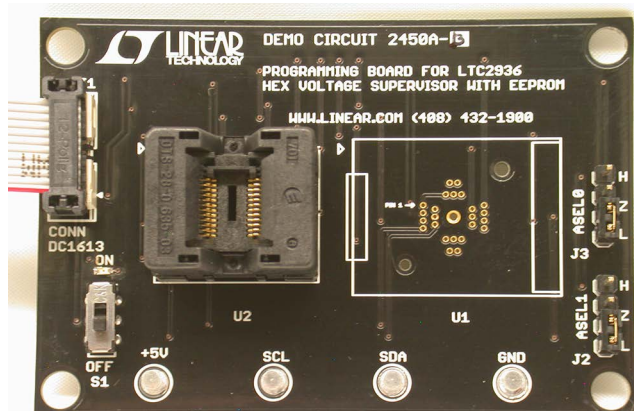

Figure 4. DC2450A-B with Open Socket
2. Connect the DC1613 USB controller to your PC. Plug the ribbon cable into connector J1 of the DC2450A programming board. See Figure 4.